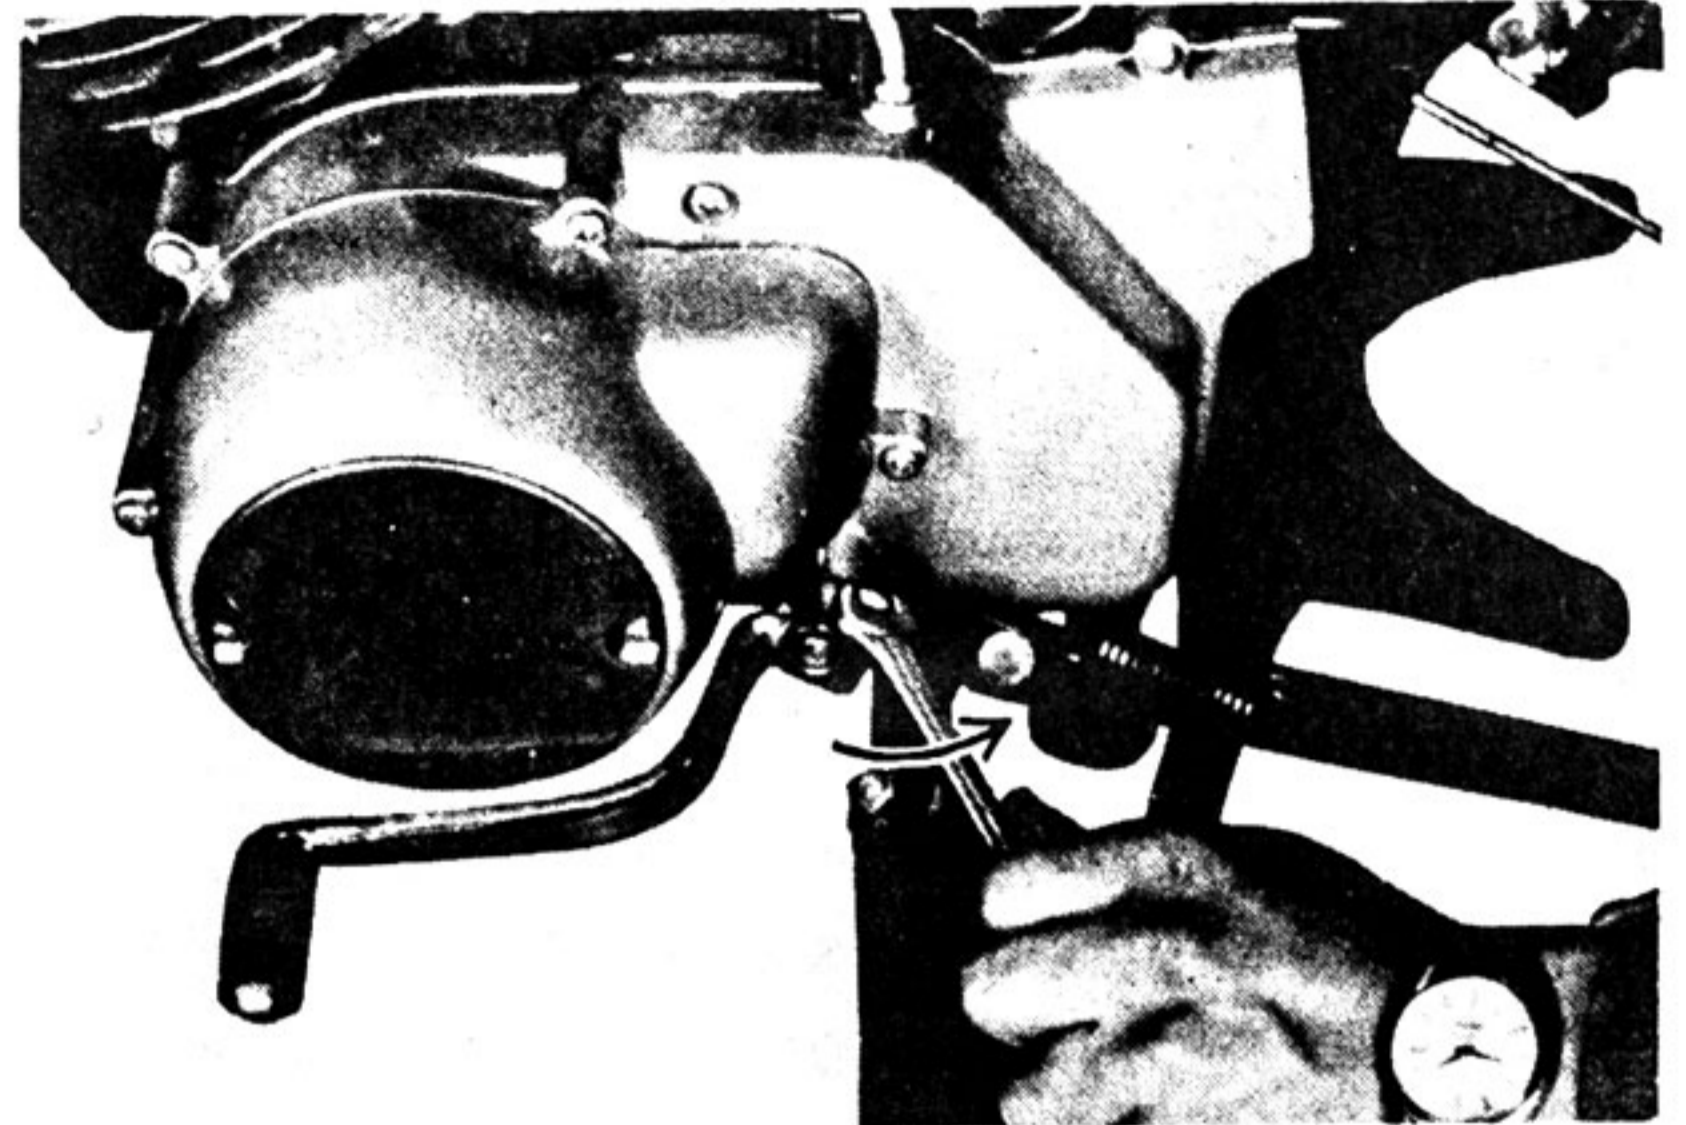

Fig. 4-1-4
3. Remove the foot rest, change pedal and crankcase cover (L) (Fig. 4-1-4)